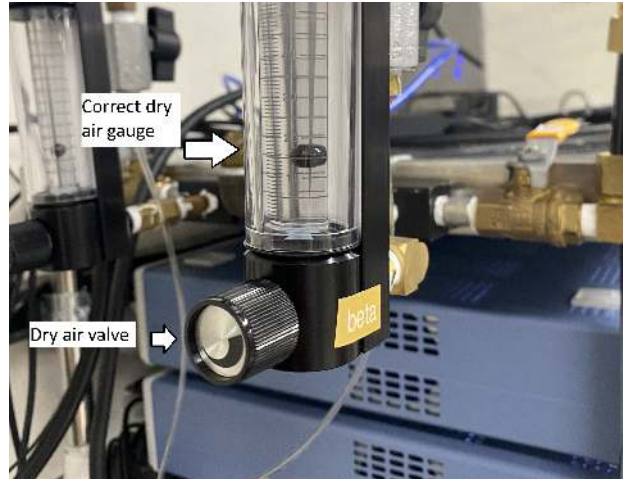

Figure 12: Dry air gauge.
- Make sure the dry air to the enclosure is on, one going directly to the module into the foam box and one going inside of the enclosure. To make sure the dry air is on, check that the dry air gauges shown in Fig 12 have a ball that is floating. If it does not you can adjust the dry air flow using the valve dial that is circled in Fig 12.